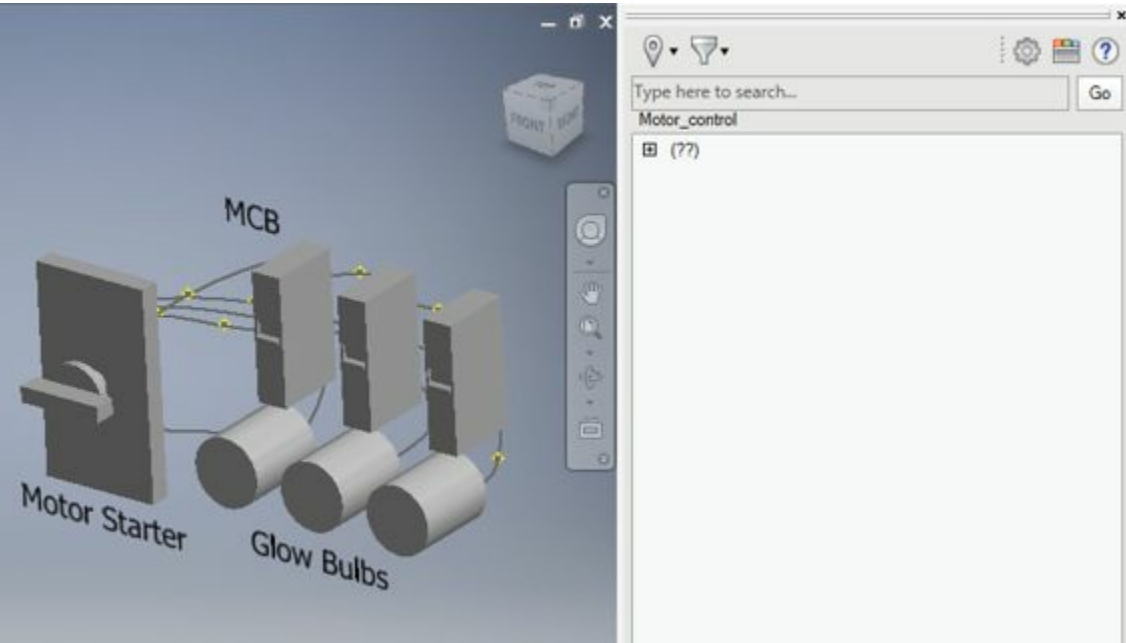

Figure-14. Location View pane
- Click on the **Close** button from the dialog box. The **Location View** pane will be displayed at the right of the application window; refer to Figure-14.